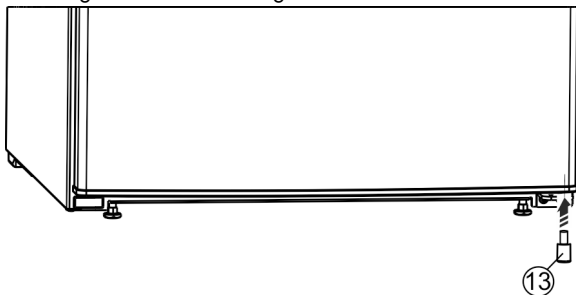

Fig. 24 \*
- Insert the spacer Fig. 24 (13) back under the right-hand side of the door, as it is important for the stability of the appliance.\*